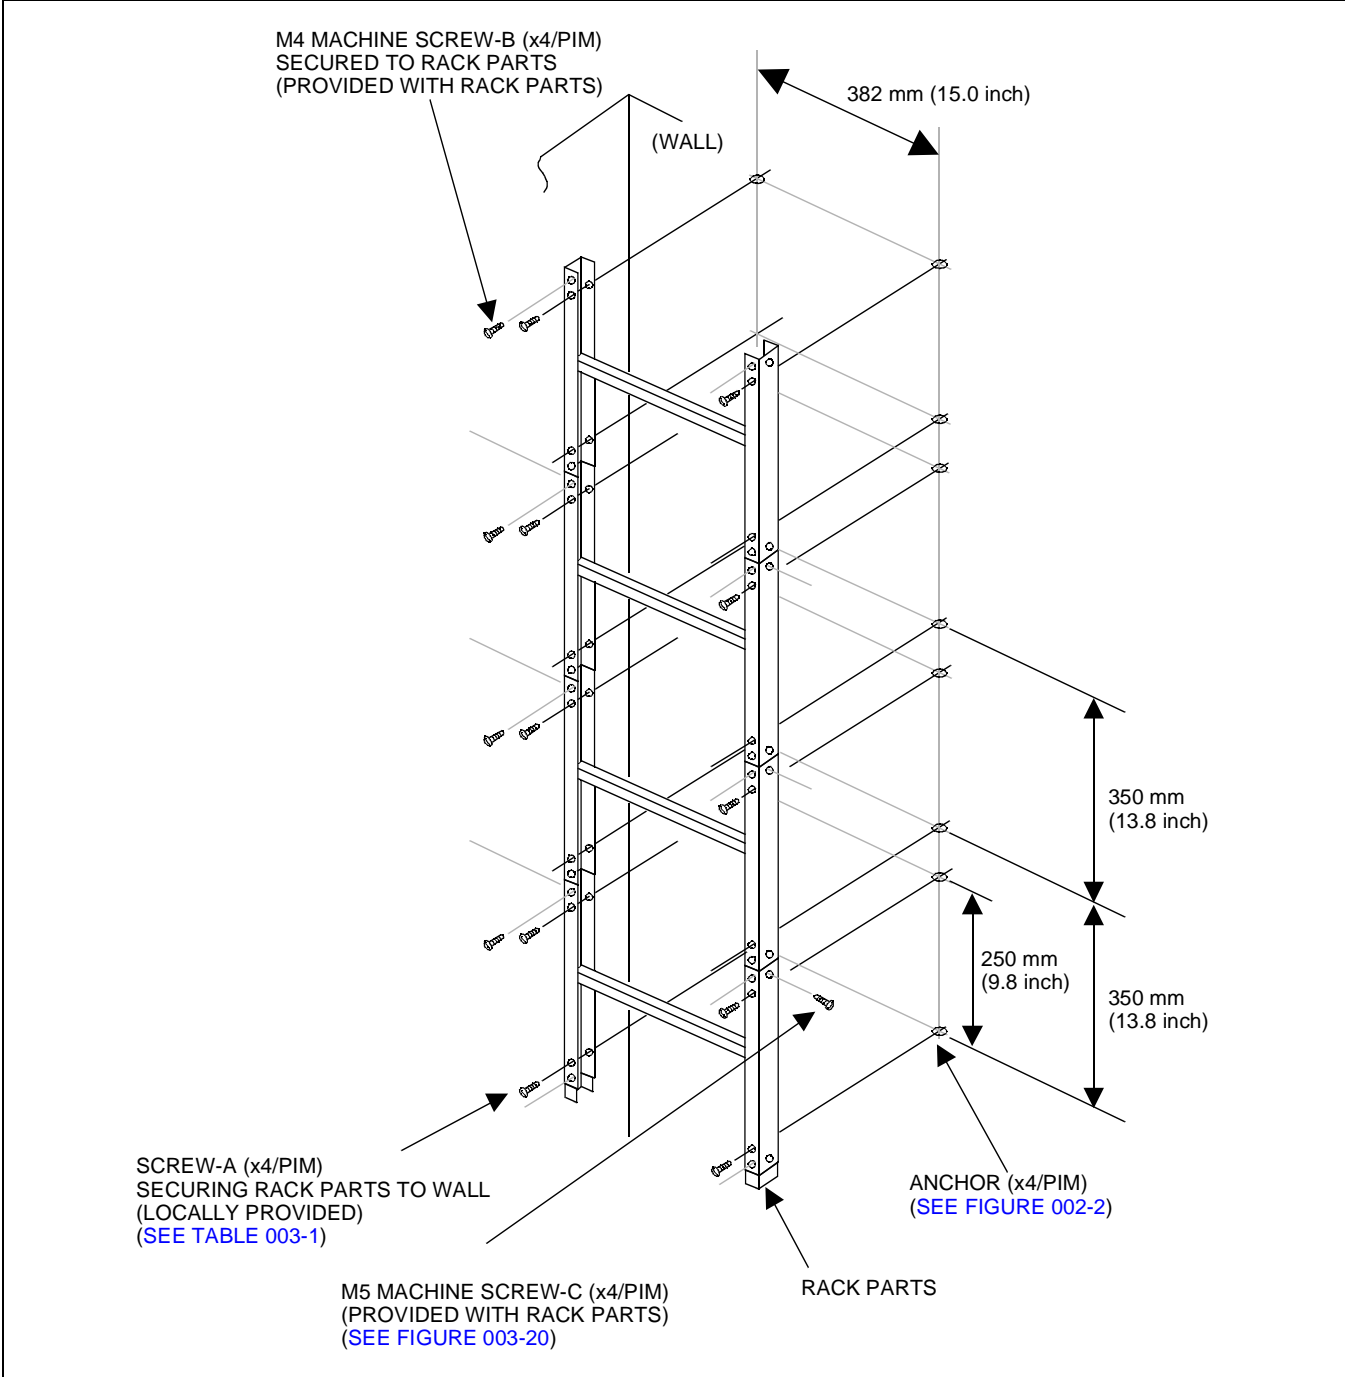

Figure 003-21 Screwing the RACK PARTS to a Wall
- (1) Using four appropriate fasteners (locally provided; see Table 003-1) for the type of wall construction, secure the RACK PARTS as shown in Figure 003-21. For the wall mounting points, refer to Figure 002-2 in NAP-200-002.
(2) When mounting the RACK PARTS to a wall, connect all the RACK PARTS to each other, and connect the BASE to the bottom RACK PARTS using the M5 Machine screws (provided), as shown in Figure 003-21.
(3) Attach four M4 machine screws (provided) to the RACK PARTS as shown in Figure 003-21.